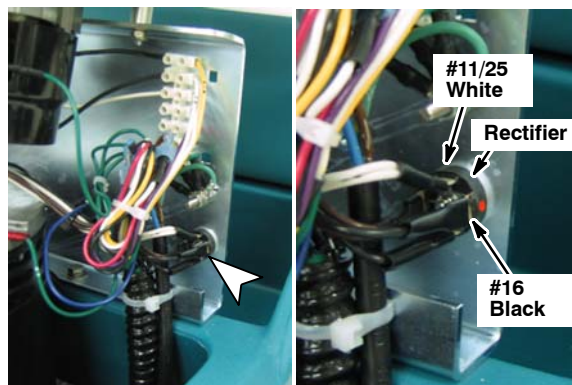

Fig. 7
8. Disconnect wires #11/25 white and #16 black from the rectifier (Fig. 7).